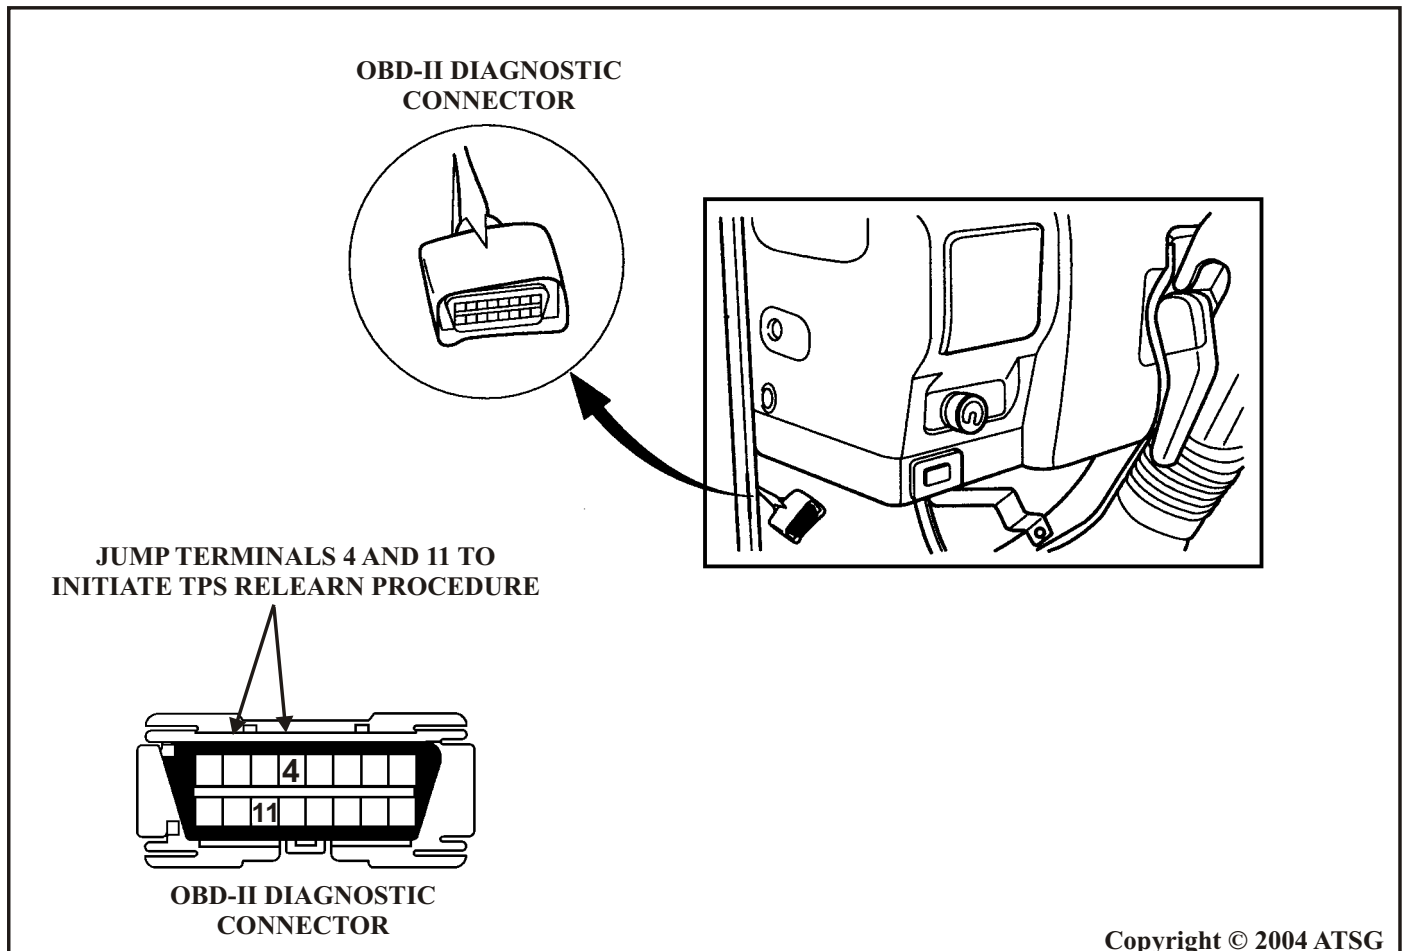

Figure 1
- 2. Connect terminals 4 and 11 of the Data Link Connector as seen in Figure 1, the "Check Trans" lamp begins flashing at 0.4 second intervals.*